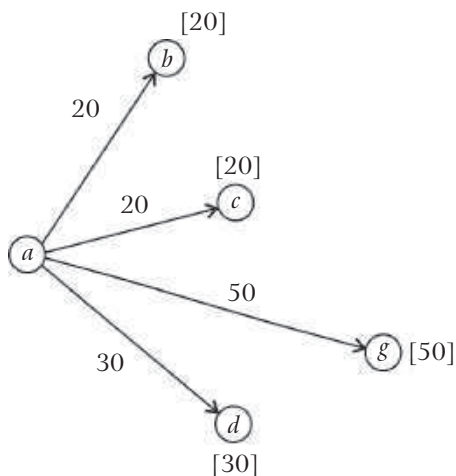

Fig. 8.24
Step 1: Starting from the station *a* draw all links by which one can go from station *a* to other adjacent stations (here stations *b*, *c*, *d* and *g*) and represent the costs from station *a* to each of these station on the links and the corresponding station. This is shown in fig. 8.24.